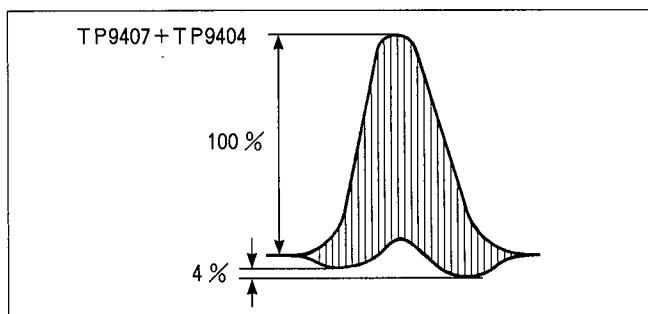

Figure E35
SPEC.	70nsec ± 35nsec (FIG. E35)
5. Adjust VR9402 so that the waveform becomes as shown in Figure E35.